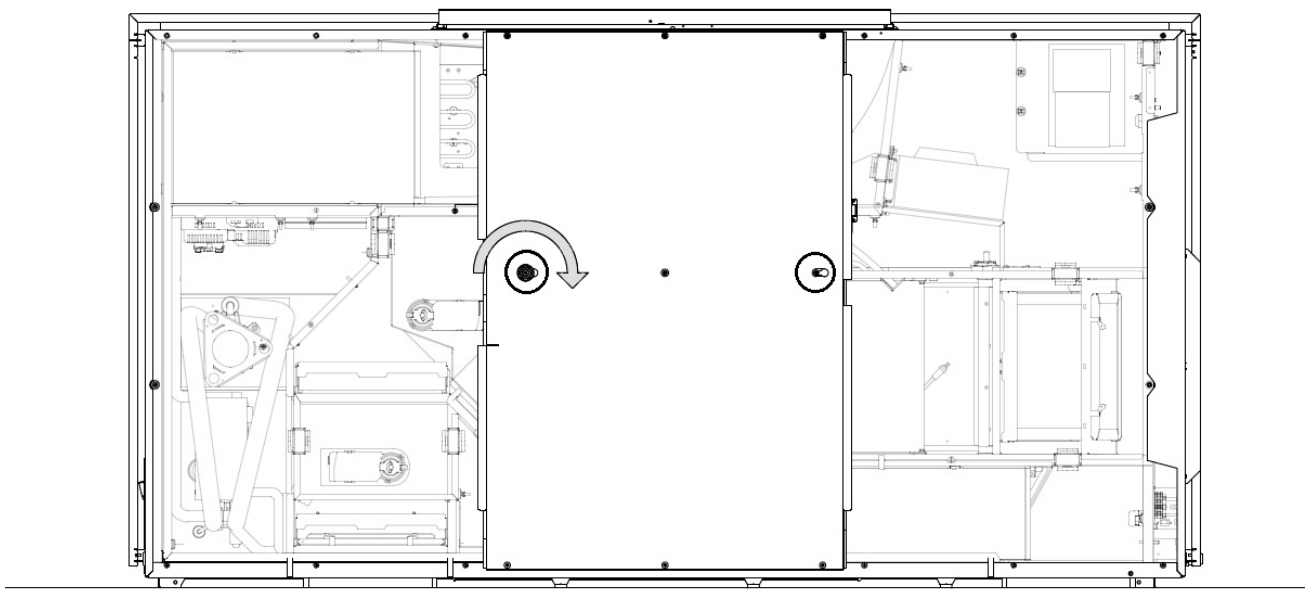

Figure 36: Tighten the bolts
4. Tighten the bolts in the keyhole, see Figure 36.